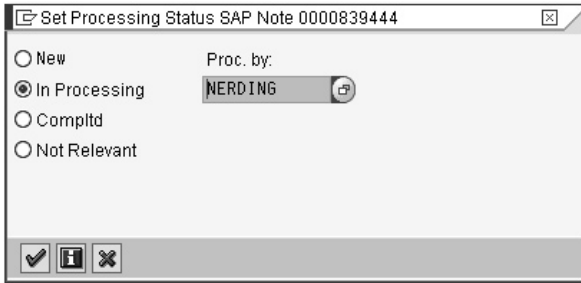

Figure 17.4 Processing Statuses for Implementing Notes
1. If the Note is relevant, set its status to IN PROCESSING (see Figure 17.4). This informs other users that you are already processing this Note.